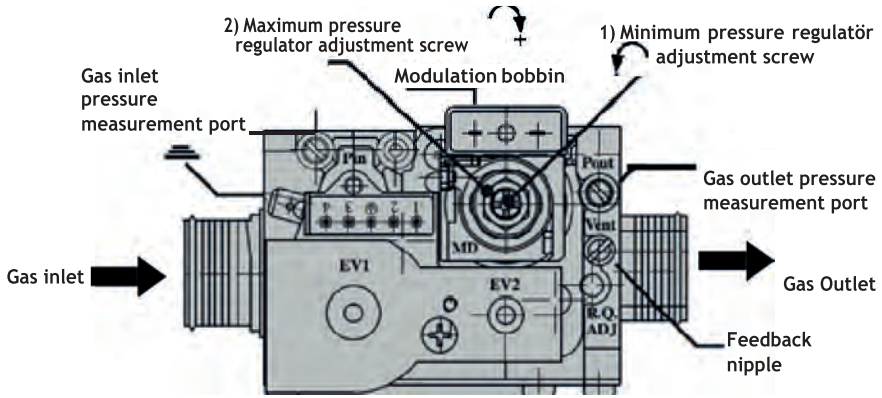

Figure 24
- U manometer is connected to gas outlet pressure ( $\varnothing 9$  mm) measurement port (Figure 24).
- After removing the protection cap of maximum pressure regulator's adjustment screw –shown by no 2 in Figure 24-, the gas flow towards the burner increases by slowly turning it clockwise, and otherwise it decreases.
- Gas flow decreases by turning the minimum pressure regulator's adjustment screw –shown by no 1 in Figure 24- clockwise, and otherwise it increases.